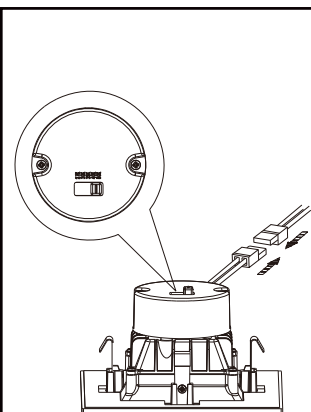

FIG. 3
3. Use the toggle switch to select your desired lamp color temperature - Soft White (2700K), Warm White (3000K), Bright White (3500K), Cool White (4000K) or Daylight (5000K) (FIG. 3).
4. Plug the CONNECTOR of the RETROFIT TRIM onto the CONNECTOR of SOCKET Adapter Assembly (FIG.3).